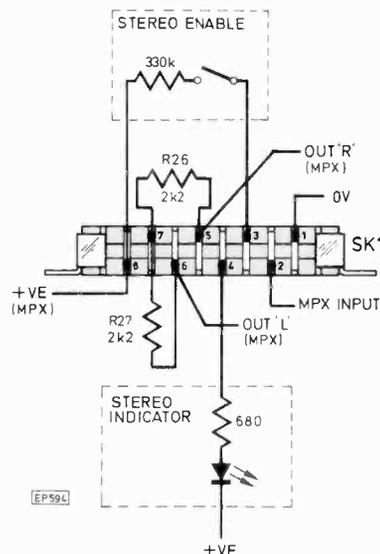

Fig. 10. Connection diagram for SK1
- \*See Fig. 10.
The front panel should be assembled next. If a stereo indicator and an enable switch (Fig. 10) are to be fitted, then the mounting holes for these should be drilled first. The front panel legend can then be fixed using either double sided tape or non plastic solvent glue. The mounting holes can then be cut out in the legend using a sharp knife. The tuning meter can then be fitted to the back plate using double sided tape. Before the back plate is fitted to the main p.c.b. the three grommets should be fitted into the mounting holes for the LP1179 tuner. The three tuning drive cord guides should be inserted into the back plate and peened over using a hammer.
The LP1401 stereo decoder, which is supplied assembled and tested, plugs into SK1 and before any interboard wiring is carried out the two resistors should be soldered to SK1 (Fig. 10). With all the boards and SK1 assembled the inter-board wiring should be carried out as shown in Fig. 12.